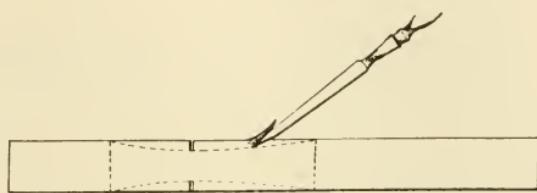

FIG. 64.—CUTTING CURVES IN HAMMER HANDLE.
10. Cutting curves. — In cutting the curves, first saw down to the curves at the deepest point of the curve and chisel down from each end towards the saw cut, as illustrated in Fig. 64. Repeat this on all sides, chiseling as close to the line as possible without cutting it; then chisel down the head to the lines marked on the end.